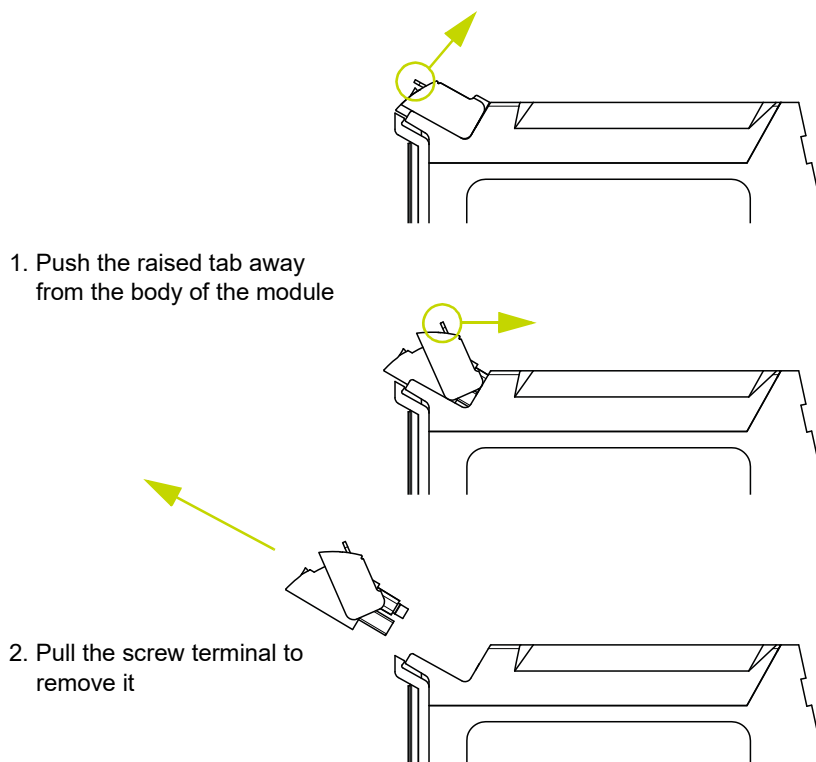

Figure 2-6: Removing a screw-terminal connector from the main body of a SpeedSys300 ODS301 module
- 1- Push the raised tab on the front of the screw-terminal connector (which acts as a lever) away from the main body of the module to overcome the retaining force and separate the screw-terminal connector and the module (see Figure 2-6). Use enough force to separate the connector from the body of module by approximately 5 mm.